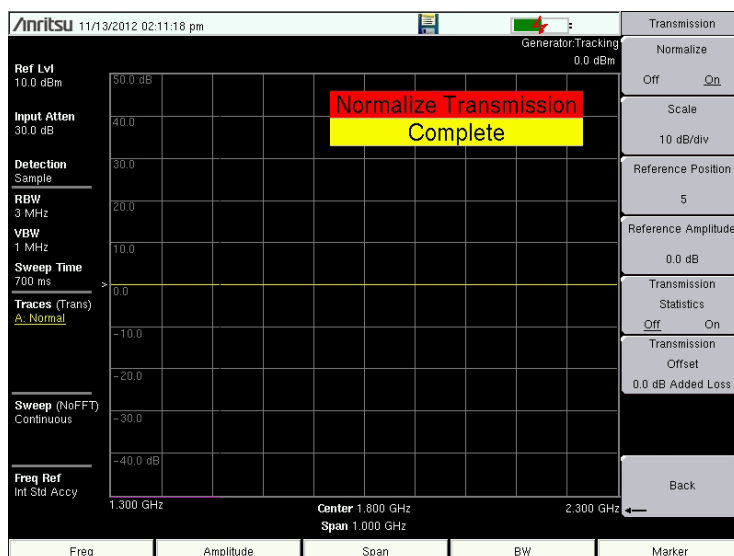

Figure 3-4. Normalize On (Trace at 0 dB)
4. Toggle Normalize On (Figure 3-4). A message will flash when the process is complete.